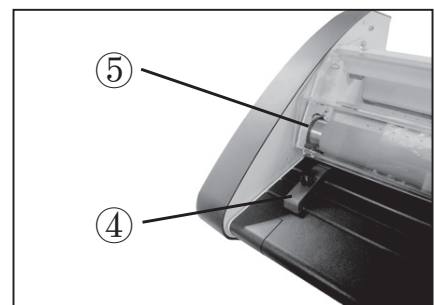

Figure 3
Feed Guide (4) -The feed guide permits alignment of the item(s) to be laminated. To position the adjustable guide, loosen the knob, slide it to the desired position and tighten the knob to secure the feed guide in place. (Fig. 3)